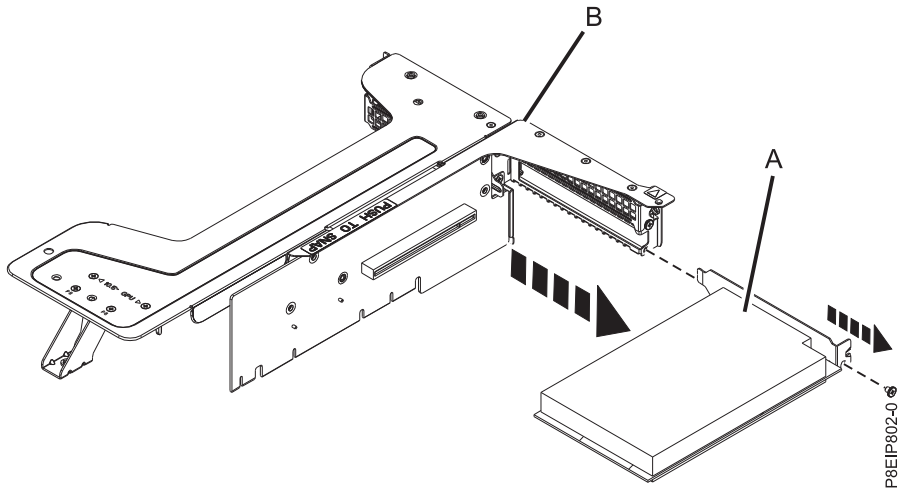

Figure 41. Removing a position 2 adapter from the riser
- i. Unplug an adapter (A) in position 2 from the PCIe adapter riser (B) as shown in Figure 41 on page 36.